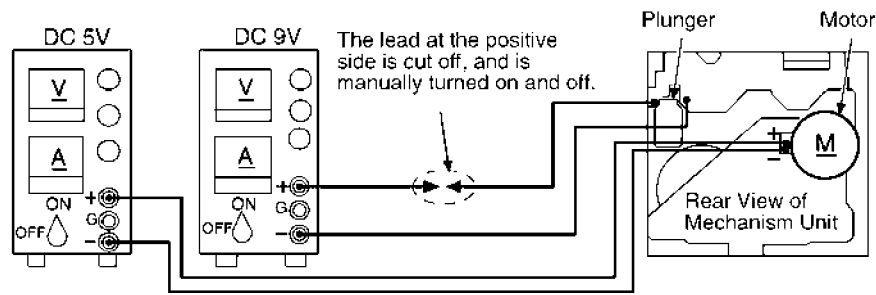

Figure 1
2. Supply DC5V to MOTOR. (→ MOTOR rotates.) (Figure 1)
4. Supply DC9V to the plunger, and turn the power ON and OFF. (→ Power +PL, -PL) (Figure 1)